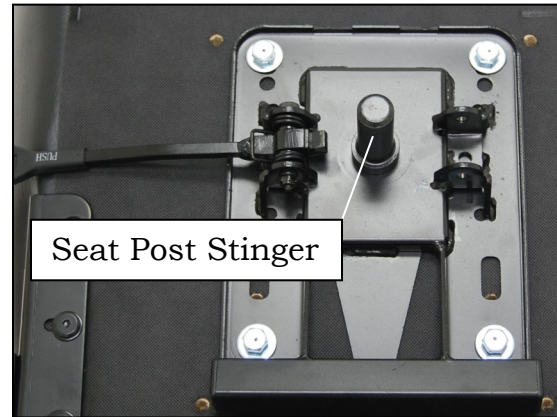

Figure 2
1. To install the seat, align the seat post stinger on the bottom of the seat with the hole in the seat post on the chair. See figures 2 and 3 on page 14.